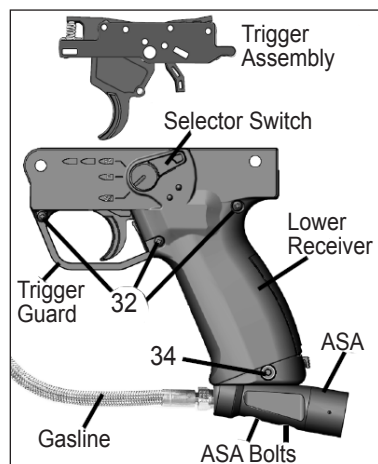

Figure 20: E-Grip lower Receiver
6. Replace the left Receiver half and secure with Screws (32 and 34, Figure 20).